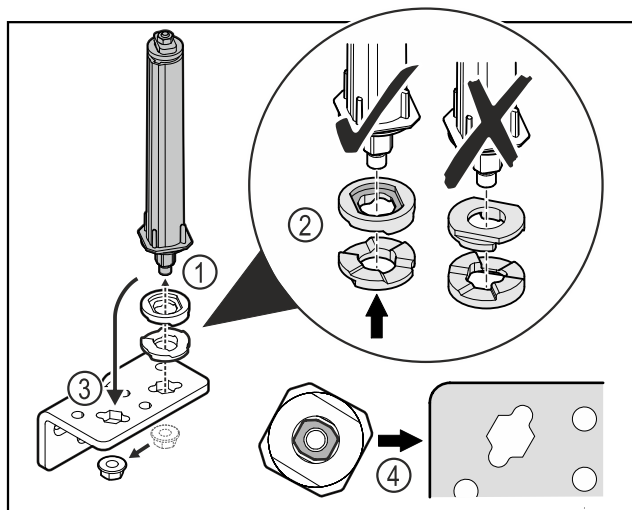

Fig. 36
- ▶ Loosen the nut and remove the door closing system Fig. 36 (1).
- ▶ Observe the correct alignment of the height adjustment washers Fig. 36 (2).
- ▶ Put the door closing system in the hinge and fix in place with the nut Fig. 36 (3).
- ▶ Observe the correct alignment of the door closing system when doing so Fig. 36 (4).